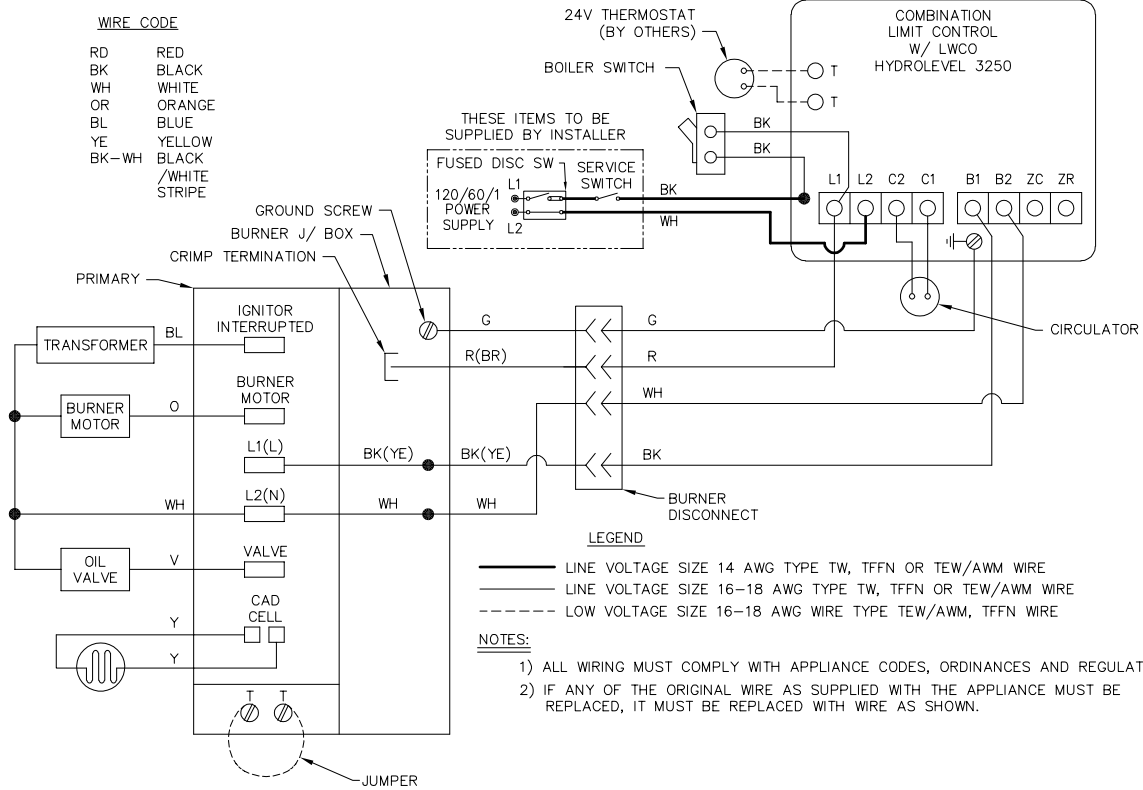

Figure 4.4: Water Boilers with Hydrolevel 3250 Limit Control
- Figure 4.4 - Water Boilers with Hydrolevel 3250 Limit Control